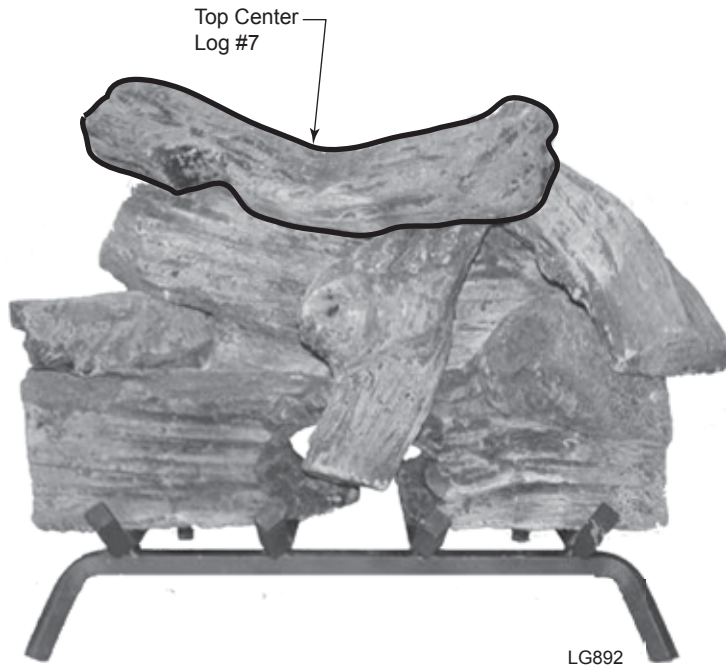

**Figure 78 -
8. Lay Top Center Log #7 across log #5 with back end resting on Log #3. *Figure 78*